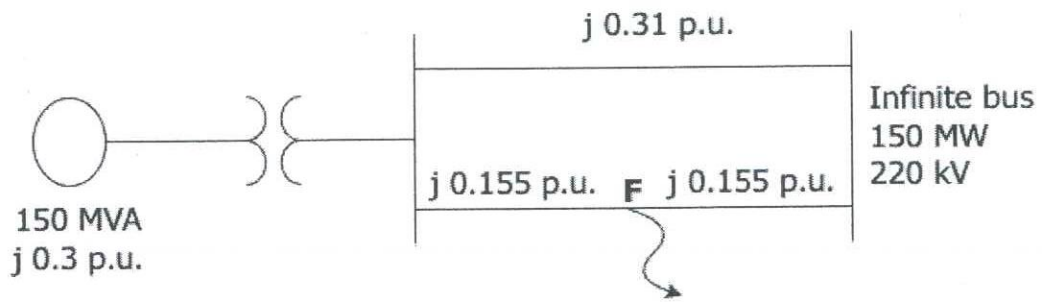

Figure Q3. Single Line Diagram.
- b) A 150 MVA synchronous generator transformer unit with overall reactance of 0.3 pu is delivering 1.0 pu active power to an infinite bus through a parallel transmission line of 220 kV as shown in Figure Q3. Both the terminal voltage and the infinite bus voltage are 1.0 pu. A three-phase fault occurs midway along one of the transmission lines which has reactance of 0.31 pu. Faulted transmission line is disconnected to stabilize the system.